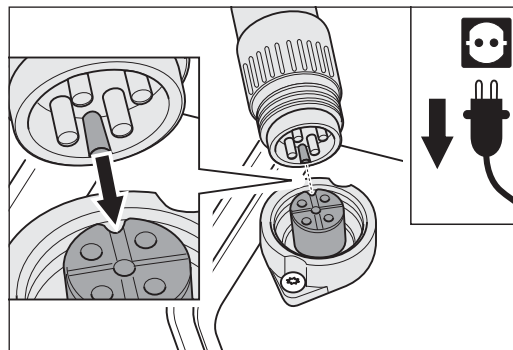
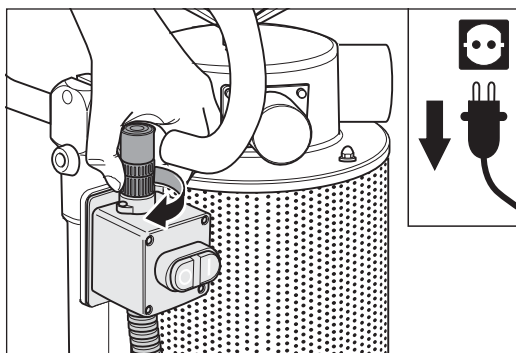

Fig. 57 Insert the cable plug of the sensor into the switch. **Make sure that the nose of the cable plug is inserted into the groove of the socket!**
Fig. 58 Lock the cable plug of the sensor by turning the ring nut.
- 4 Insert the cable plug of the sensor into the on/off switch. **Make sure the nose of the cable plug is inserted in the groove of the socket (fig. 57)!** Lock this connection by turning the ring nut **clockwise** (fig. 58).